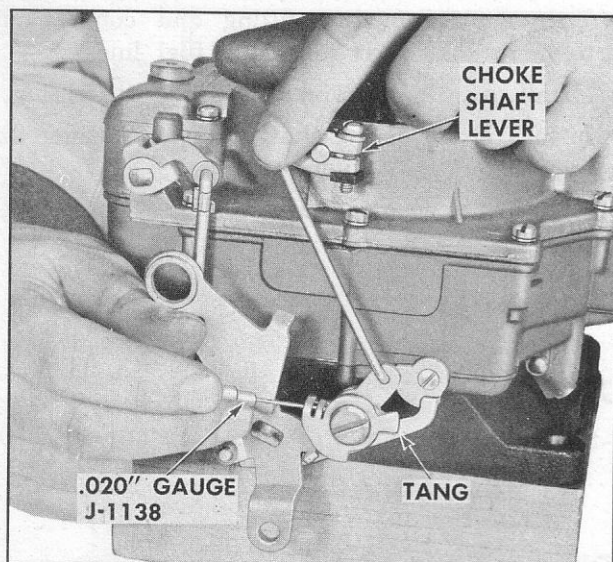

Fig. 116—Correcting Choke Linkage for Fast Idle Adjustment
1. Loosen choke lever clamp screw on choke shaft (fig. 116).